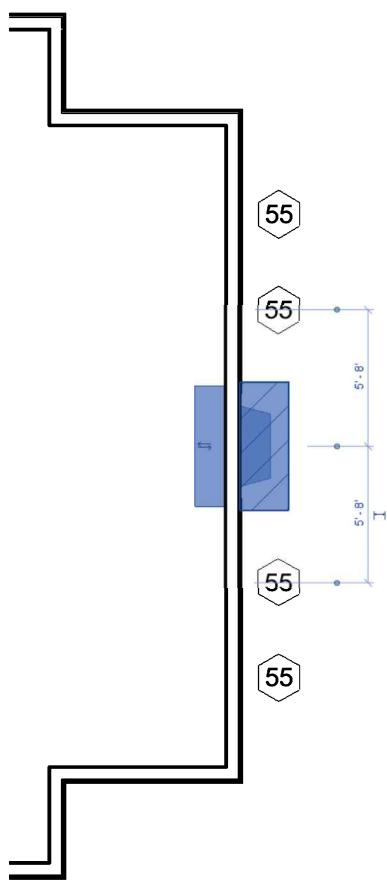

FIGURE 5-5.2 Chimney added
6. Adjust the temporary dimensions so the chimney is centered on the wall (Figure 5-5.2).